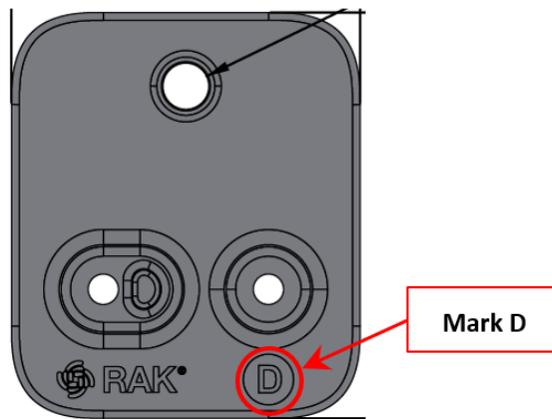

Figure 16: Mount accessory marked with letter D
1. For wall mount, use two (2) pieces of mount accessories with an indicator marked with the letter **D**, as shown in **Figure 16**.